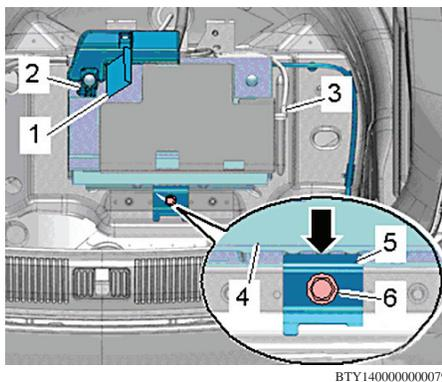

Fig. 4 Battery bracket installation
2. Install battery bracket (5). Tab (arrow) on battery bracket must fit into opening on battery clamping strip (4), **Fig. 4**.
3. Install bolt (6) to battery bracket and **torque** to 13 ft. lbs., **Fig. 4**.
4. Connect hose for central venting system (3), **Fig. 4**.
- a. First connect positive battery cable (2) to battery positive terminal by hand and **torque** nut to 44 inch lbs., **Fig. 4**.
- b. Close cover (1) over battery positive terminal, **Fig. 4**.
- c. Disconnect connector (3) on battery monitoring control module (1), **Fig. 4**.